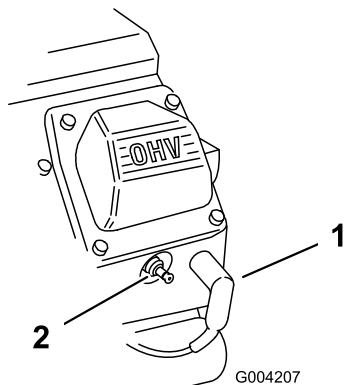

Figure 22
- Pull the wires off of the spark plugs (Figure 22).